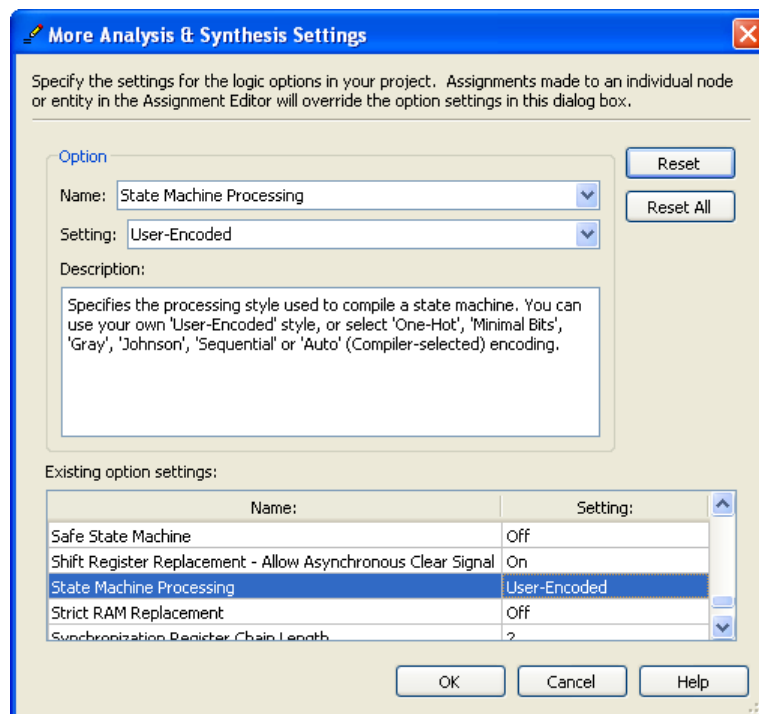

Figure 4: Specifying the state assignment method in Quartus II.
3. Before compiling your code it is necessary to explicitly tell the Synthesis tool in Quartus II that you wish to have the finite state machine implemented using the state assignment specified in your VHDL code. If you do not explicitly give this setting to Quartus II, the Synthesis tool will automatically use a state assignment of its own choosing, and it will ignore the state codes specified in your VHDL code. To make this setting, choose **Assignments > Settings** in Quartus II, and click on the **Analysis and Synthesis** item on the left side of the window, then click on the **More Setting** button. As indicated in Figure 4, change the parameter **State Machine Processing** to the setting **User-Encoded**.